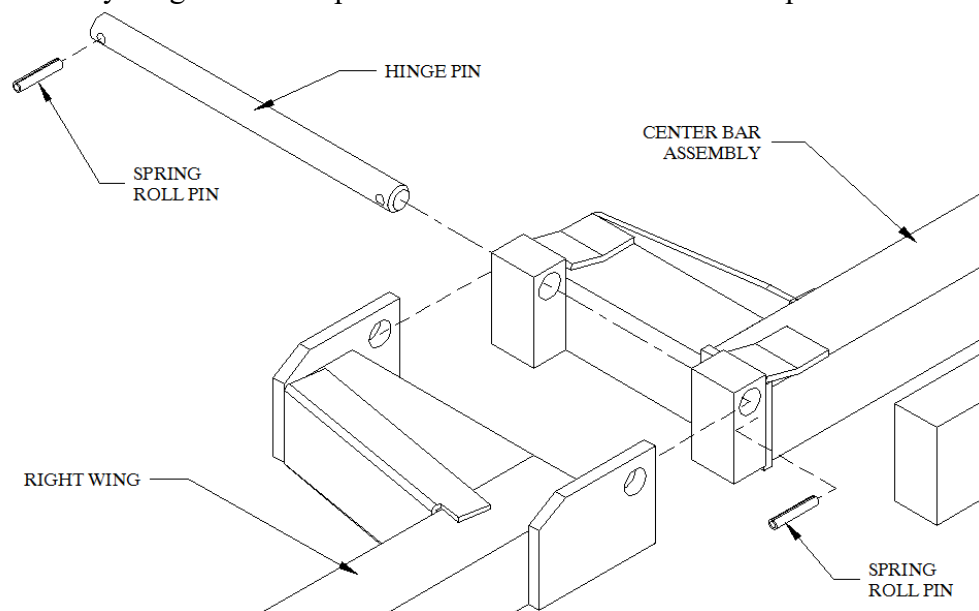

Figure 9
- For units 32 and 36 install the fitting with the flow restrictor HYF-2821 in the rod end of the cylinder as shown in Figure 9.
The left and right wings can be identified by inspecting the hinges. Notice in Figure 9 that the hinge point is not centered, but rather is towards the top of the hinge and is nearly in line with the top edge of the center bar assembly. Figure 9 is a representation of the unit in the field position.